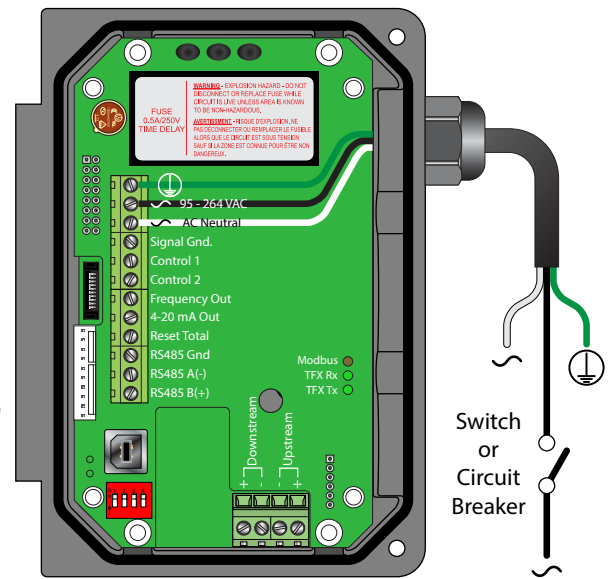
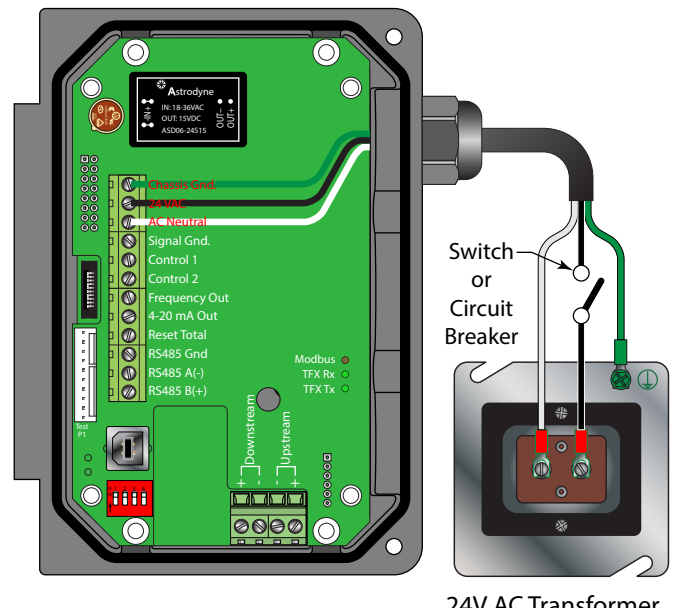

Figure 6: Line voltage AC power connections
Figure 7: Low voltage AC power connections
5. Connect power to the screw terminal block in the transmitter using the conduit hole on the right side of the enclosure. See *Figure 6* and *Figure 7*. Use wiring practices that conform to local and national codes such as The National Electrical Code Handbook in the U.S.
Connect 95...264V AC, AC neutral and chassis ground to the terminals shown in *Figure 6*. Do not operate without an earth (chassis) ground connection.
Connect 20...28V AC, AC neutral and chassis ground to the terminals shown in *Figure 7*.